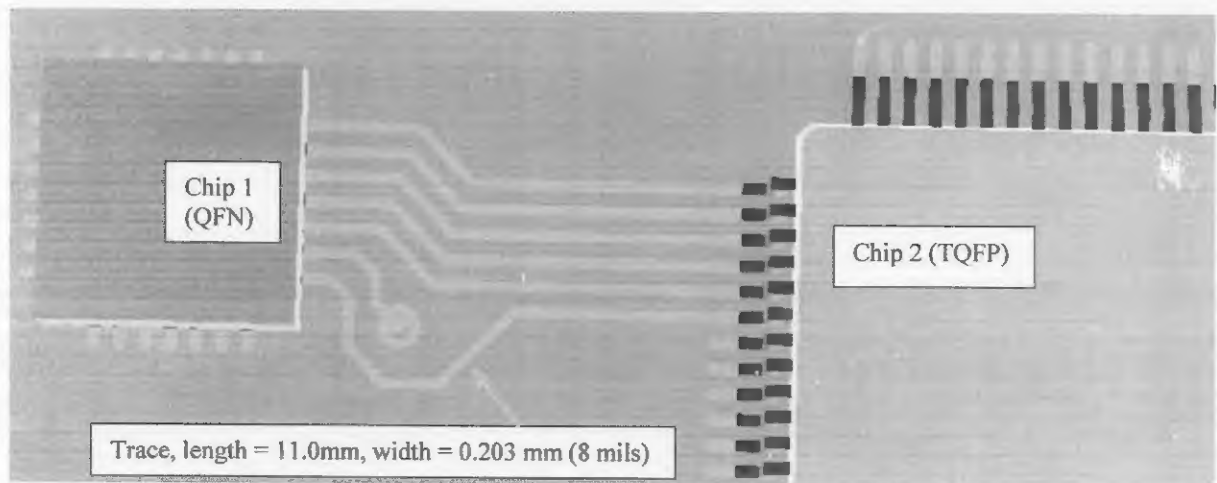
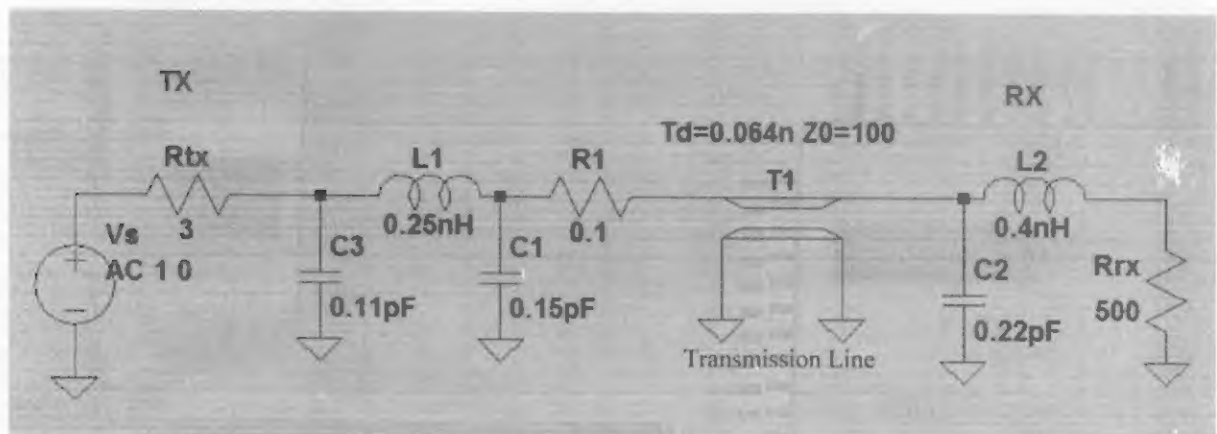
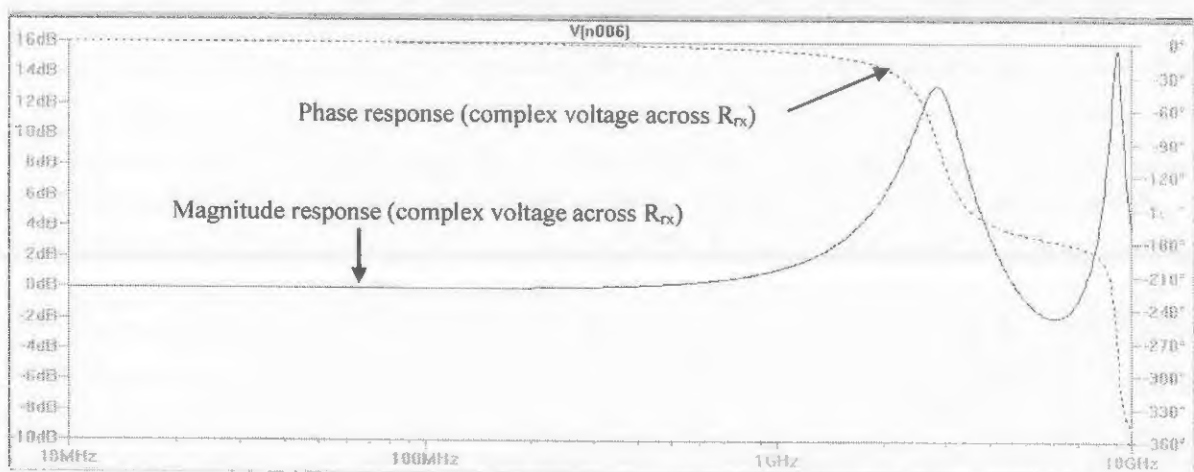
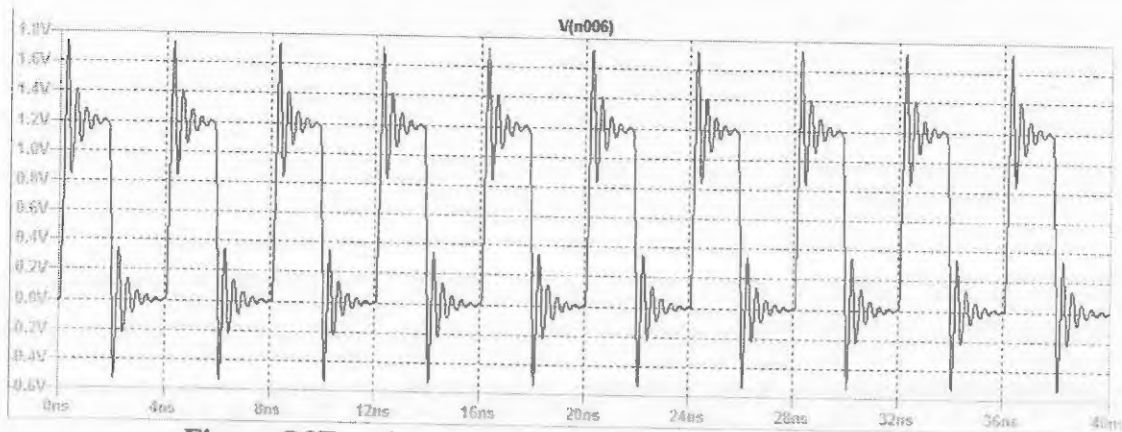

Figure Q3B – A small section of a PCB with two chips.
Figure Q3C – The equivalent electrical circuit for the interconnection between TX in Chip 1 and RX in Chip 2.
Figure Q3D – Frequency response of the interconnection (from TX to RX), measured at  $R_{rx}$ .
Figure Q3E – Time-domain voltage across  $R_{rx}$  inside Chip 2.
- (c) A portion of the top view of a PCB with two chips (in TQFP and QFN packages) is shown in Figure Q3B. Chip 1 on the left contains a high-speed transmitter (TX) on the die while Chip 2 on the right contains a receiver (RX) on the die. The TX and RX are connected by an 11.0 mm long copper trace on the PCB. The width of the trace is 0.203 mm (8 mils). A ground plane is underneath the trace. The PCB substrate that separates the trace and ground plane, has a thickness of 0.46 mm with  $\epsilon_r = 4.4$  and  $\mu_r = 1.0$ . Ignoring interaction with adjacent traces, the equivalent electrical circuit between TX and RX is shown in Figure Q3C, and the frequency response from 10 MHz to 10 GHz is shown in Figure Q3D.
- Assume  $V_s$  (of Figure Q3C) is a pulse generator, sending a stream of periodic digital pulses with amplitude of 1.2V, pulse width of 2 nanoseconds, and rise/fall time of 200 picoseconds. Estimate the bandwidth of the digital pulses, stating the rule-of-thumb used.
- Briefly explain the need for the transmission line element in the equivalent circuit of Figure Q3C.
- The time-domain waveforms of the received voltage at RX (i.e. voltage across  $R_{rx}$ ) is captured in Figure Q3E. Based on the voltage waveforms in Figure Q3E. Estimate the percent overshoot and undershoot of the digital pulse signal at RX, and explain, from the perspective of signal integrity why the time-domain signal at RX is badly distorted. *Hint: Use the data in Figure Q3D.*